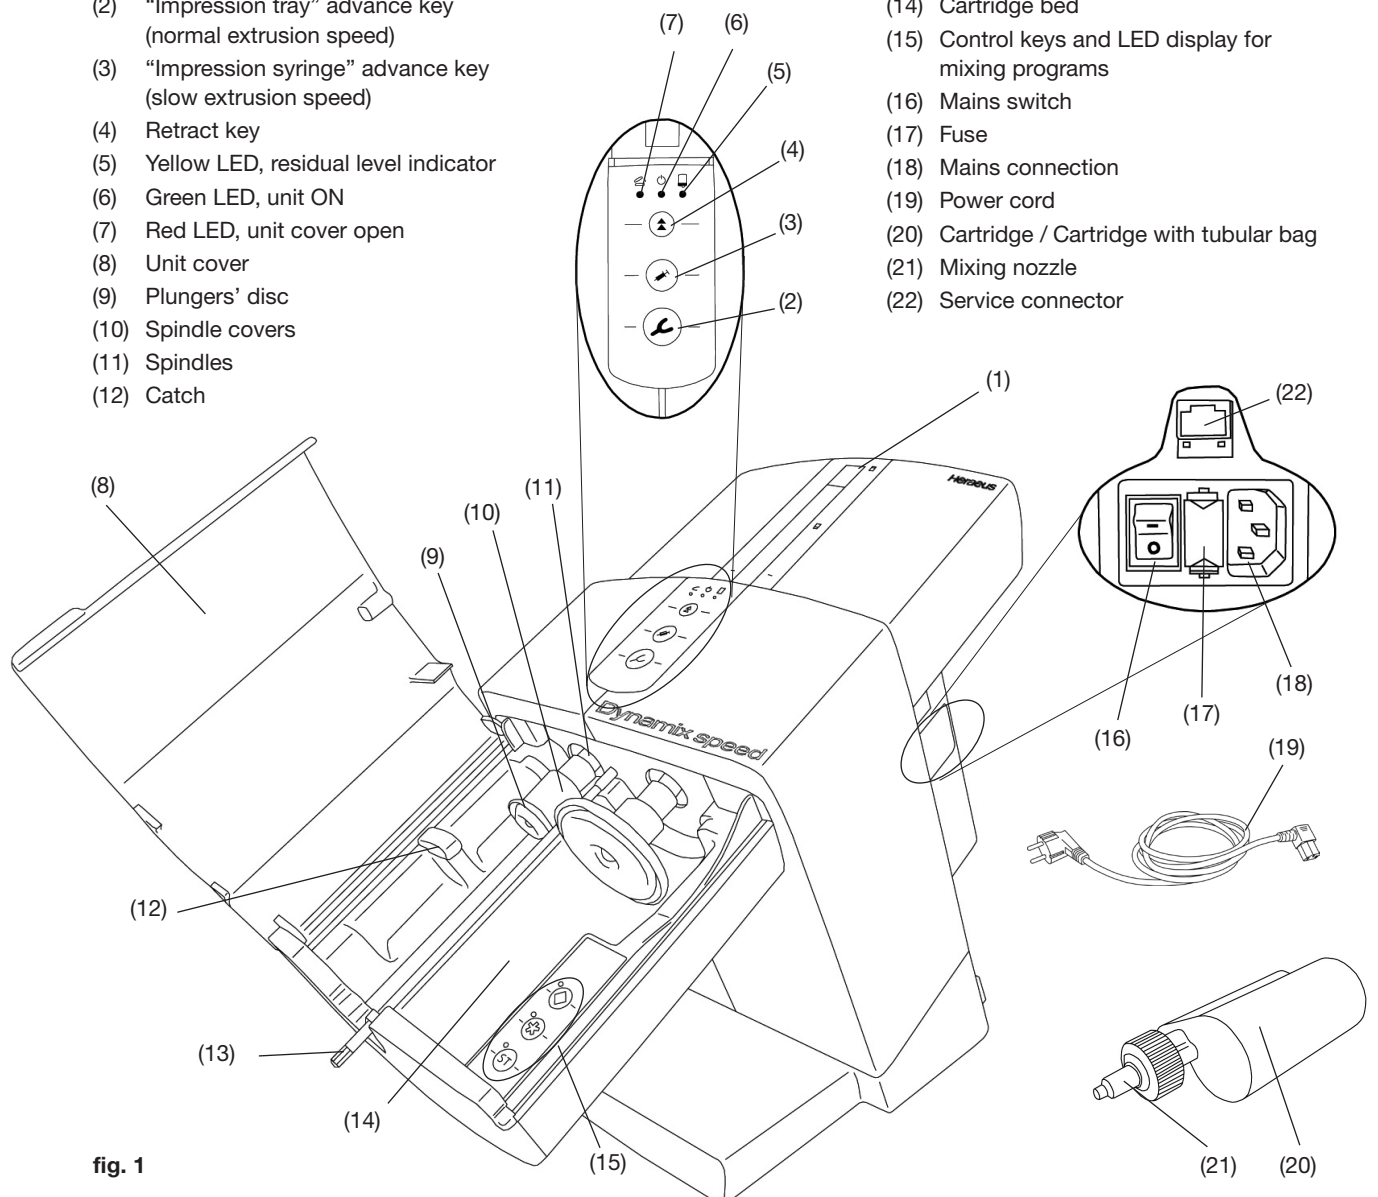
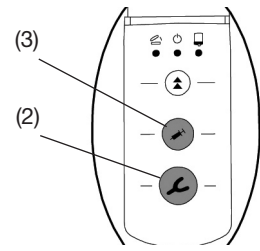

fig. 1
fig. 8
- Connect the provided power cord (19, fig. 1) to the main connection socket (18).
- Switch the unit on at the main power switch (16).
- Press the retract key (4).
- The plungers (9, fig. 1) retract to their home position where they stop.
- Open the unit cover (8, fig. 1).
- Remove the shipping restraint (23).
A cartridge can only be installed or replaced if both plungers (9, fig.1) are in their home position.
- Close the unit cover (8, fig. 1).
- Place cartridge (20) in unit.
The cover will only close if the cartridge has been properly installed. The red "Unit cover open" LED (7, fig. 1) will remain on until the unit cover has been properly closed.
- If the operator presses one of the feed keys (impression tray (2, fig. 8) or dispenser (3, fig. 8)) without selecting a mixing program, the "ST" program will be activated automatically. The LED next to the "ST" key goes on.
- Press and hold down the advance key (2) or (3) (depending on the desired speed or function):
- Impression tray (2), normal extrusion speed with activated mixing program or
- Impression syringe (3), slow extrusion speed.
- The mixer shaft is activated in order to allow the hexagonal end (13, fig 1) to thread itself into the mixing nozzle.